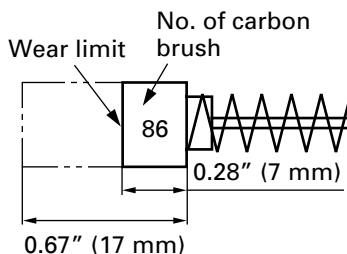

Fig. 8
4. Inspecting the carbon brushes (Fig. 8)
NOTE: Use HITACHI carbon brush No. 86 indicated in Fig. 8.